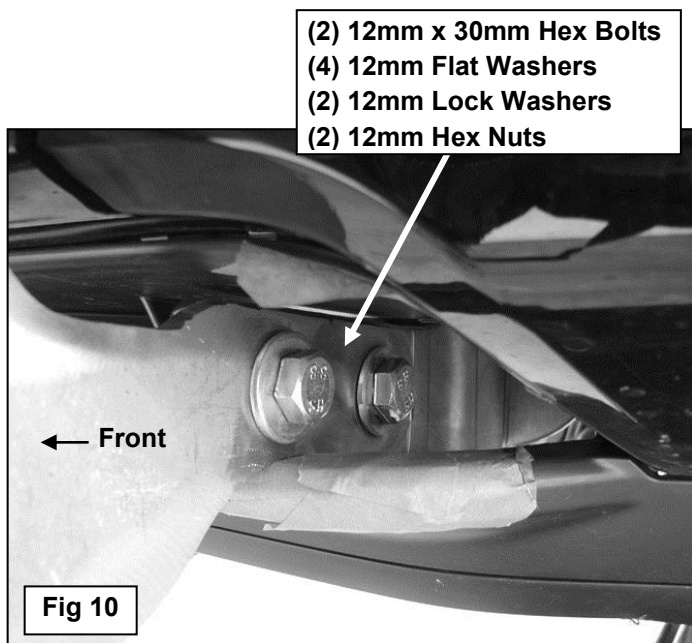

Fig 10
- With assistance, line up the bottom mounting tabs on the Grille Guard with the (2) previously installed Frame Mounting Brackets. Bolt the Grille Guard to the Frame Mounting Brackets with the included (4) 12mm x 30mm Hex Bolts, (8) 12mm Flat Washers, (4) 12mm Lock Washers and (4) 12mm Hex Nuts, **(Figure 10)**. Do not tighten hardware at this time.